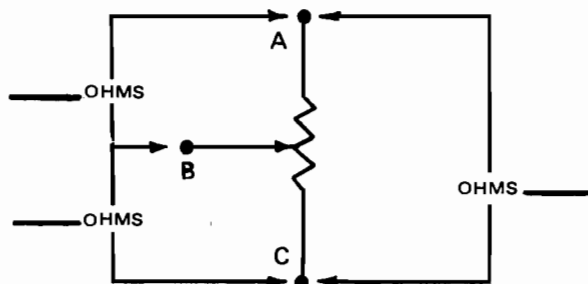

Fig. 5-1-2A
- Use VOM to measure resistance of potentiometer between test points A and C in Fig. 5-1-2A. Fill in measured value as A-C ohms.